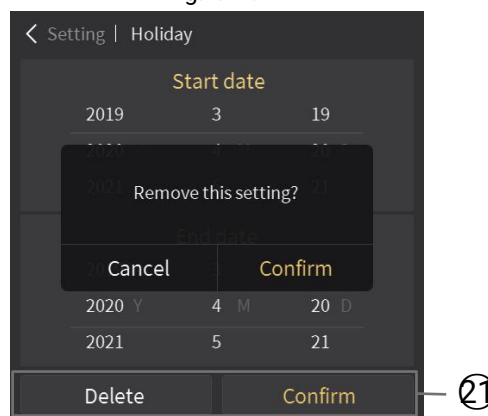

Fig.2.11.14
**⑱ Add holidays by touching the icon;**
Enter the interface as shown in Fig.2.11.14 by touching icon⑱. **Timing is off during holidays.**
**⑲ Enter the holiday time setting by touching the icon ;**